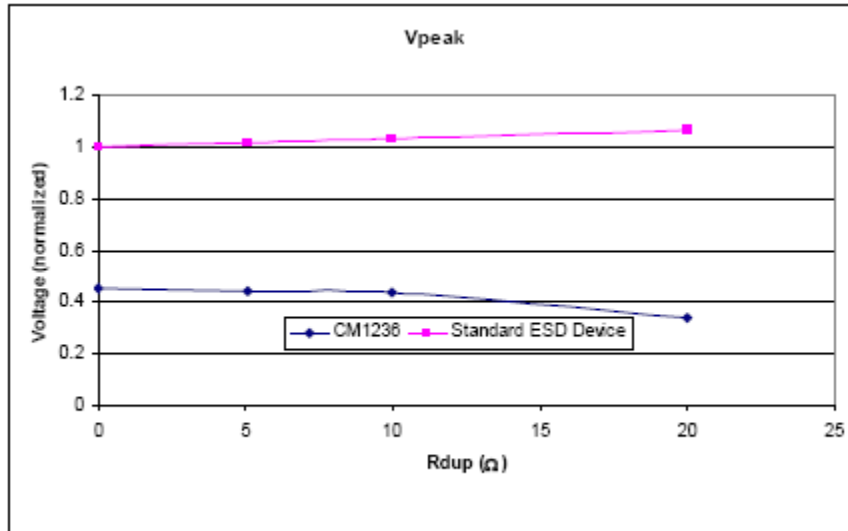
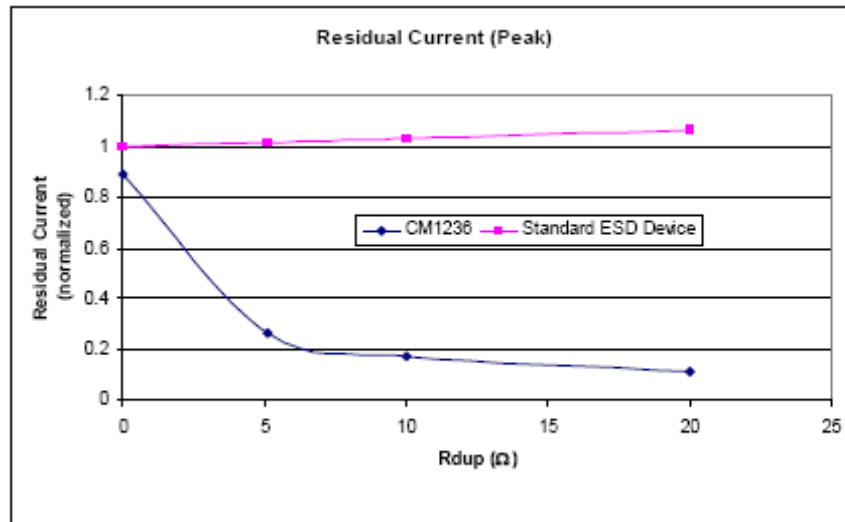
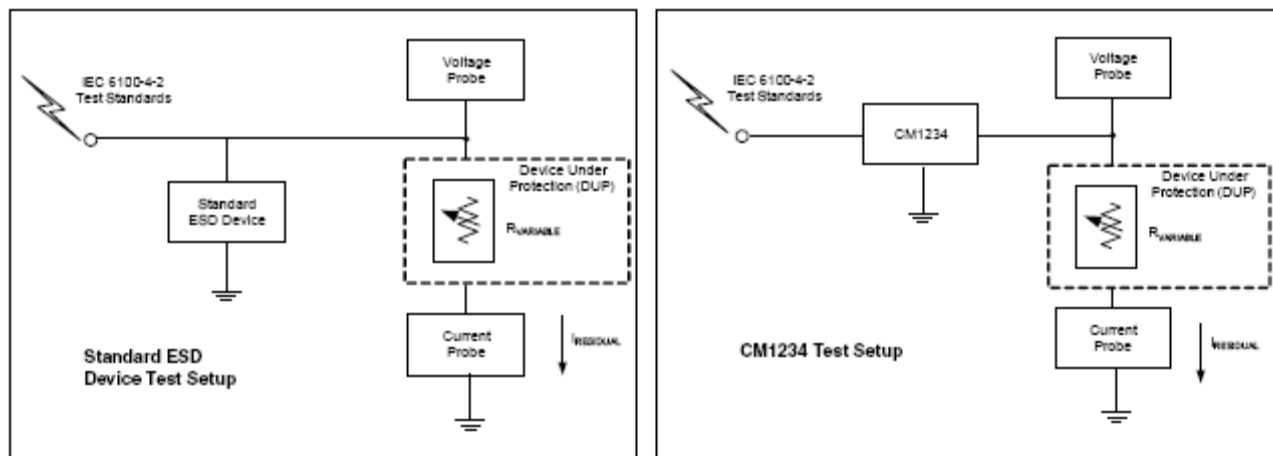

Figure 4. V_{CLAMP} vs. RDUP* (ASIC) – 8kV Contract Strike
Figure 5. I_{RESIDUAL} vs RDUP* (ASIC) – 8kV Contract Strike
Figure 6. Test Setups: Standard Device (Left) and CM1235 (Right)
Figure 4 shows that the CM1236 (*PicoGuard XS* ESD protector) lowers the peak voltage and clamping voltage by 45% across a wide range of loading conditions in comparison to a standard ESD protection device. Figure 5 also indicates that the DUP/ASIC protected by the CM1236 dissipates less energy than a standard ESD protection device. This data was derived using the test setups shown in Figure 6.
* RDUP is the emulated Dynamic Resistance (load) of the Device Under Protection (DUP). See Figure 6.